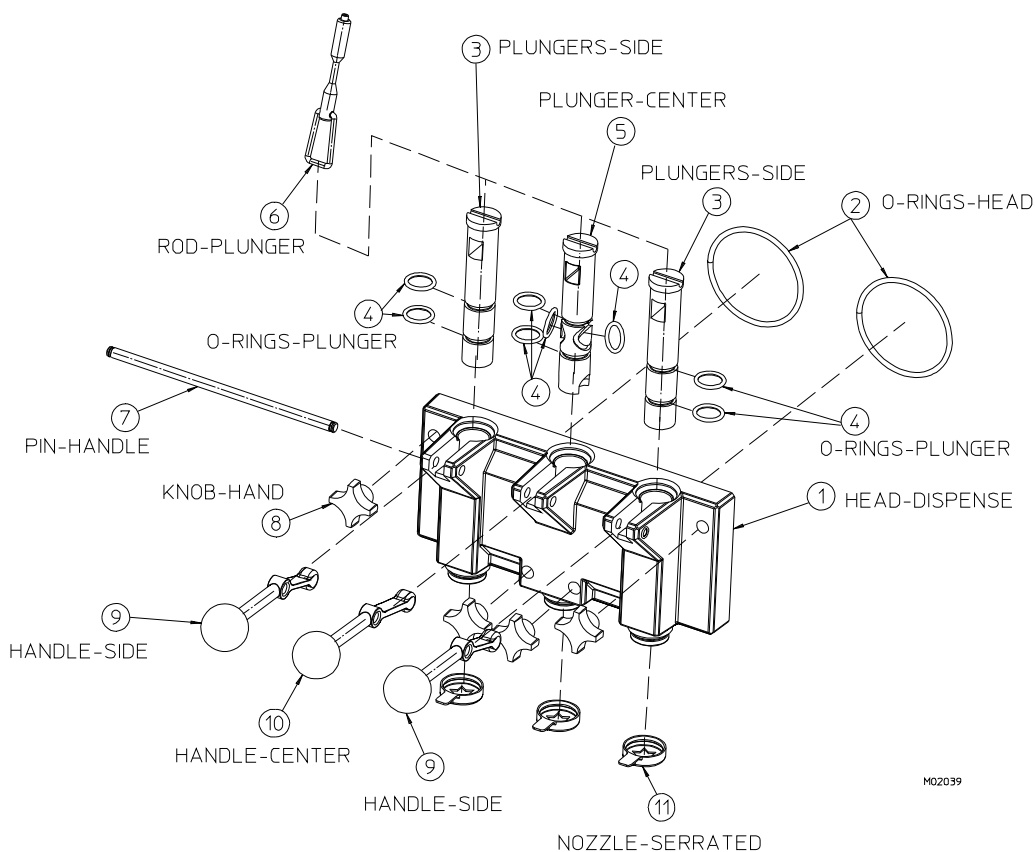
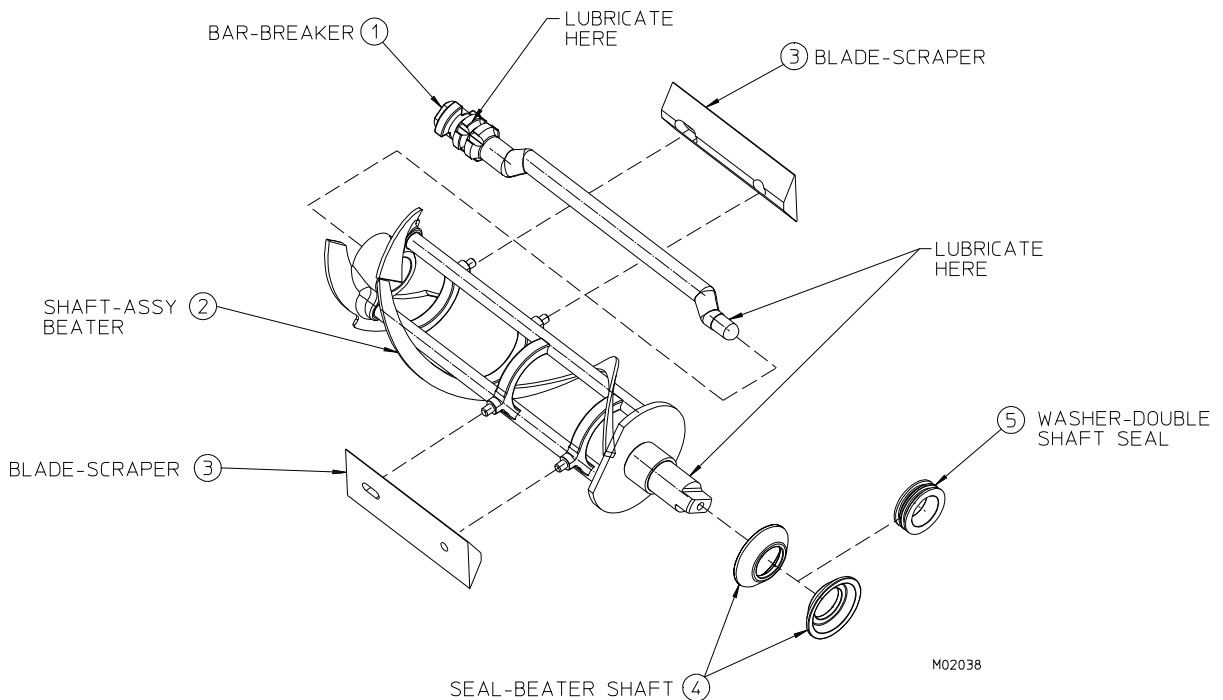

Figure 8-2
Figure 8-3
2. Remove plunger rods (6, figure 8-2) by lifting up and swinging the bottom out and down.
3. Remove the hand knobs (8) and gently pull the dispensing head (1) straight out.
4. Remove the beater shaft (1, figure 8-3) from each cylinder. Then remove breaker bar (1), scraper blades (3,4) and shaft seal (3,4) from the beater shafts. Remove the cup seals (4) from the washer (5) on the shaft seal assembly.
3. From the dispense head (1, figure 8-2) remove the handle pin (7), handles (9,10), plungers (5,3) and nozzles (11). Remove head o-rings (2) and the o-rings from plungers (4).